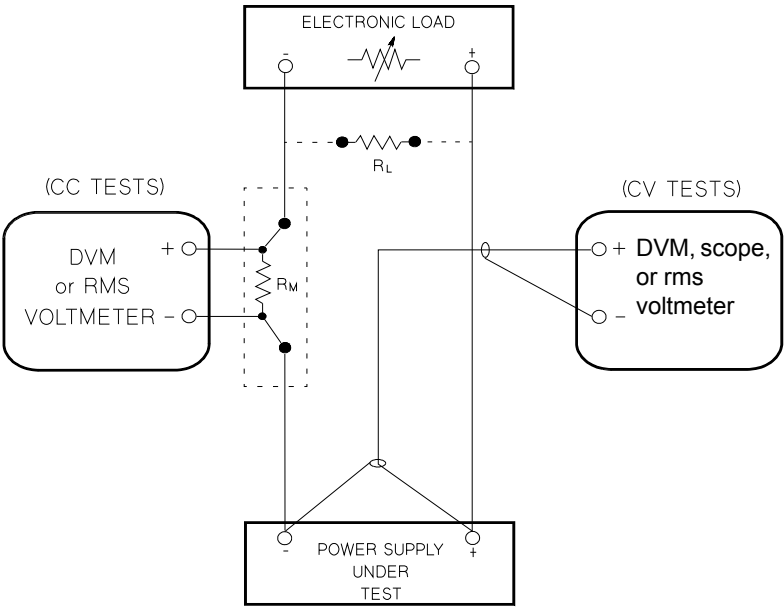
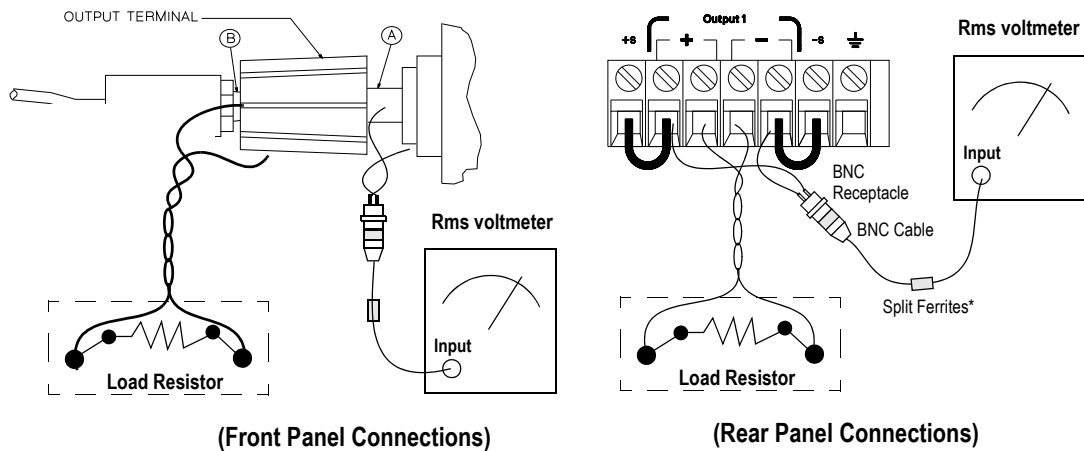

Figure 8-2 Performance verification test setup
Figure 8-4 CV PARD (ripple and noise)
Most tests are performed at the front terminals as shown in Figure 8-2. Measure the DC voltage directly at the (+) and (-) terminals on the front panel.
To eliminate the output current measurement error caused by the voltage drops in the leads and connections, connect the current-monitoring resistor between the (–) output terminal and the load as a four-terminal device. Connect the current-monitoring leads inside the load-lead connections directly at the monitoring points on the resistor element (Refer to R_M in Figure 8-2).
- 1 Turn off the power supply and connect a digital voltmeter between the (+) and (–) terminals of the output to be tested as shown in Figure 8-2.
- 1** Turn off the power supply and connect a digital voltmeter between the (+) and (–) terminals of the output as shown in Figure 8-2.
For better measurement results, it is recommended to make the connection between the BNC receptacle and the output terminals as short as possible, and to use the recommended split ferrites with the BNC-to-BNC cable as shown in Figure 8-4.
- 1 Turn off the power supply and connect the output to be tested as shown in Figure 8-2 to an oscilloscope (AC coupled) between the (+) and (-) terminals. Set the oscilloscope to the AC mode and bandwidth limit to 20 MHz. Connect a resistive load ($13.5\ \Omega$)^[1] to the terminal at **B** as shown in Figure 8-4.
- 5** Disconnect the oscilloscope and connect the AC rms voltmeter in its place according to the “Vrms measurement techniques” on page 200 and as shown in Figure 8-4. The rms voltage reading must not exceed the rms limit of 0.5 mV^[3] or 1 mV^[4].
- 1** Turn off the power supply and connect the output to be tested as shown in Figure 8-2 with an oscilloscope. Operate the electronic load in the constant current mode.